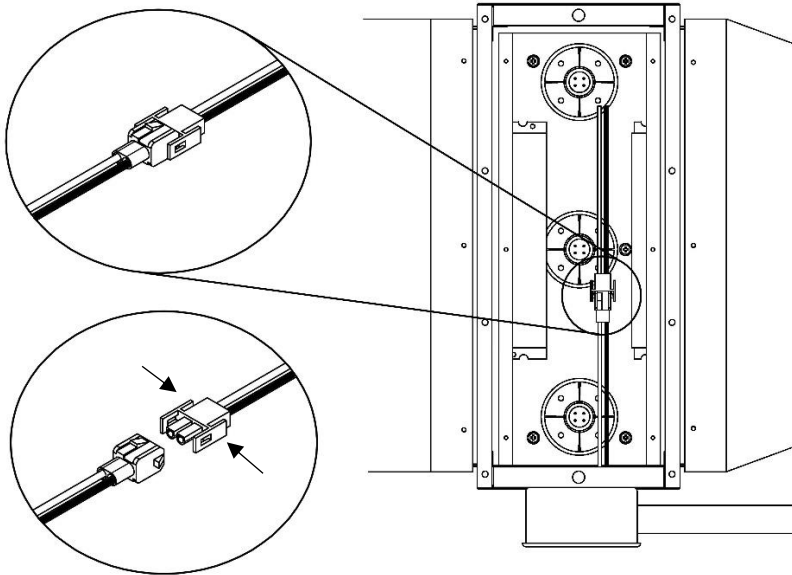
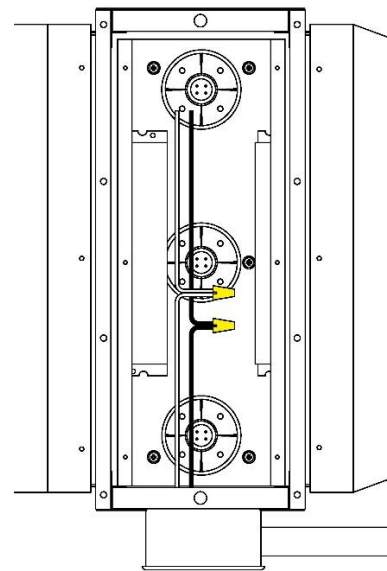

Figure 27: MOLEX Style Connection
Figure 28: Wire Nut Style Connection
3.) Disconnect MOLEX connectors powering catalyst panels. See Figure 27. Older models may use wire nuts. See Figure 28. Take note of when each wire is connected. They will need to be rewired in the same way once the new panel is put into place.
6.) Using MOLEX connectors or wire nuts, wire catalyst panel in the same way they were originally wired. See Figures 27 and 28.